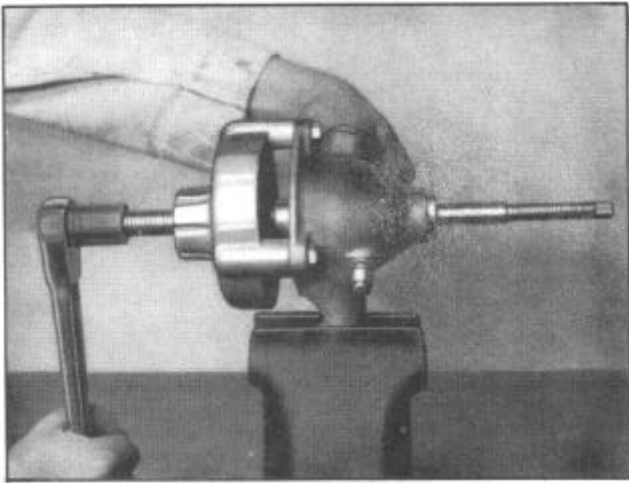

Figure 11--Installing Rear Bushing
4. Insert the pilot through both bushings and also through the thumb screw, as illustrated in Figure 11.
6. Place the burnishing tool (8) supplied in repair kit in the rear bushing just installed. Install the thumb screw (No. 2) over the hex end of the burnishing tool and screw thumb screw into the body (No.1).